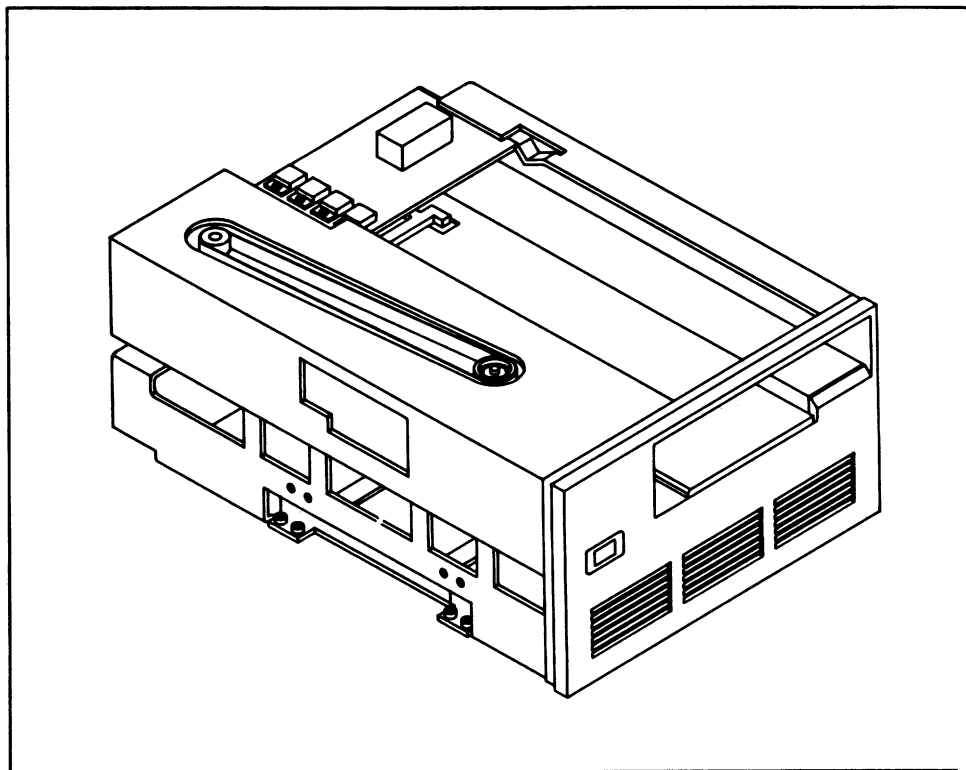

Figure 3-1 *Tape Drive Internal View*
1. Refer to figure 3-1. Moisten a clean, lintless swab with head cleaning solution. Avoid excessive amounts of solution.